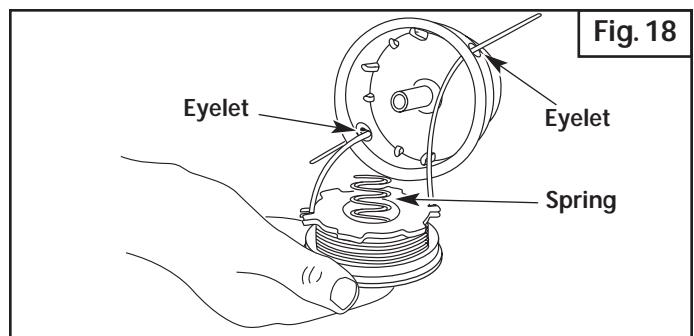

Fig. 18
13. Insert the ends of the line through the eyelets in the outer spool and place inner reel with spring inside the outer spool (Fig. 18). Push the inner reel and outer spool together. While holding the inner reel and outer spool, grasp the ends and pull firmly to release the line from the holding slots in the reel.
5. Insert the ends of the line through the eyelets in the outer spool (Fig. 18).